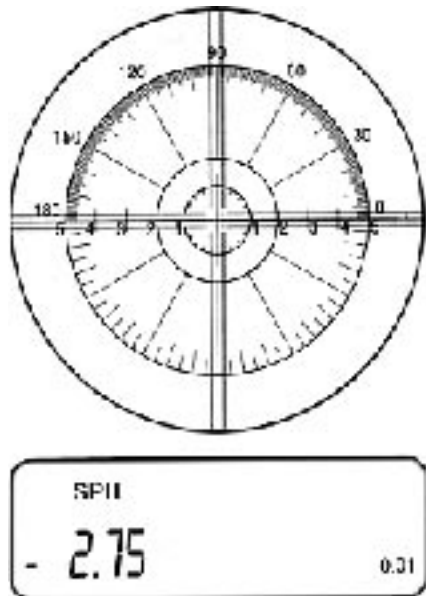

Fig. 10
- (2) Lightly move lens so that drone is at center of eyepiece visual field. Then finely regulate diopter measuring hand wheel to obtain clearest focus of drone. At this time, the number on the liquid crystal display screen is just the spherical diopter of this lens (Fig. 10).